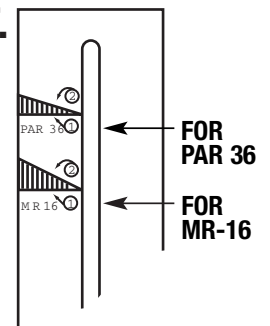

FIGURE 4
5. Adjust socket bracket to desired angle. (see Fig. 4).